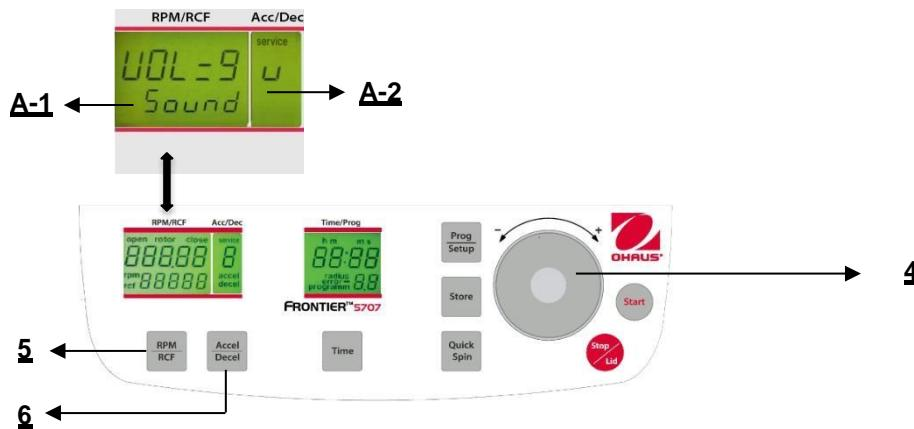

Figure. 30
Proceed as described under point 4.1.2 to enter this program mode and then press the key "Accel/Decel" (6). In the display "Acc/Dec" (A-2) the word "Service" flashes. Now select the letter "U" with the adjusting dial (4). As a result, in the display "RPM/RCF" (A-1) the words "Vol=0- 9/Sound" appear. After pressing the key "RPM/RCF" (5), you can adjust the desired volume between 0 (low) and 9 (high) with the adjusting dial (4) (See figure 30).